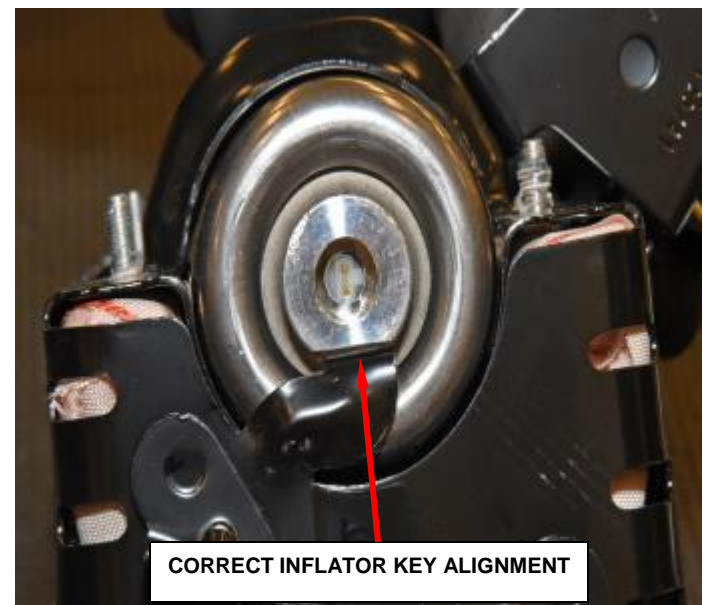

Figure 82 – Check for Inflator Key Alignment
q. Ensure that the inflator’s key is still lined up with the housing’s key (Figure 82).